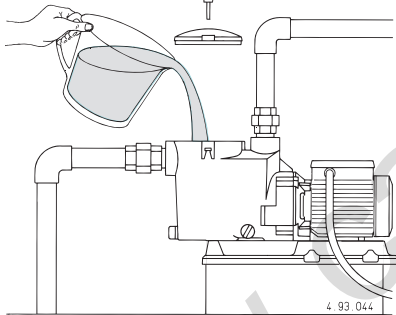

Fig. 2 Filling
**When the pump is located above the water level** (suction lift operation) fill the pump with water up to suction port level through the opening on the strainer after removing the cover (fig. 2).